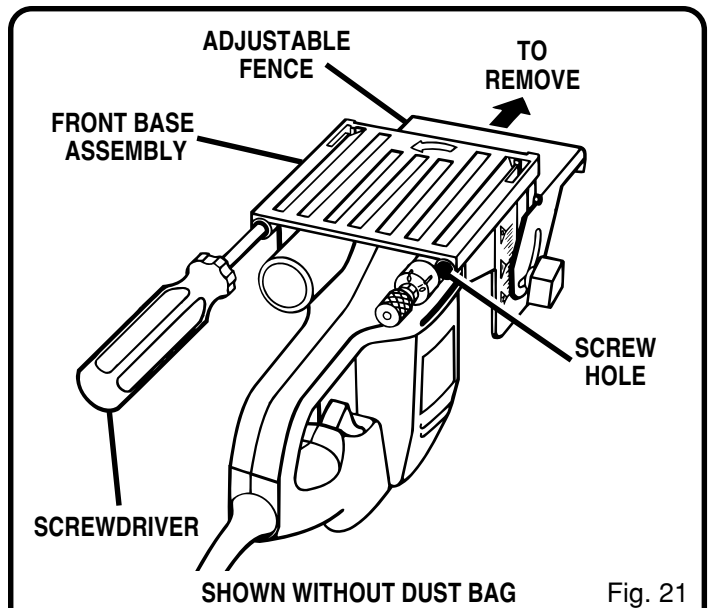

Fig. 21
3. Place your plate joiner upside down on a workbench as shown in figure 21.
5. Pull adjustable fence in the direction shown by the arrow in figure 21 and remove front base assembly.